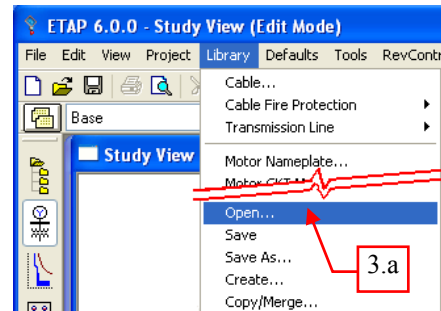

Fig. 1
- a. On the main menu, select “Library→Open...” (See Fig. 1).